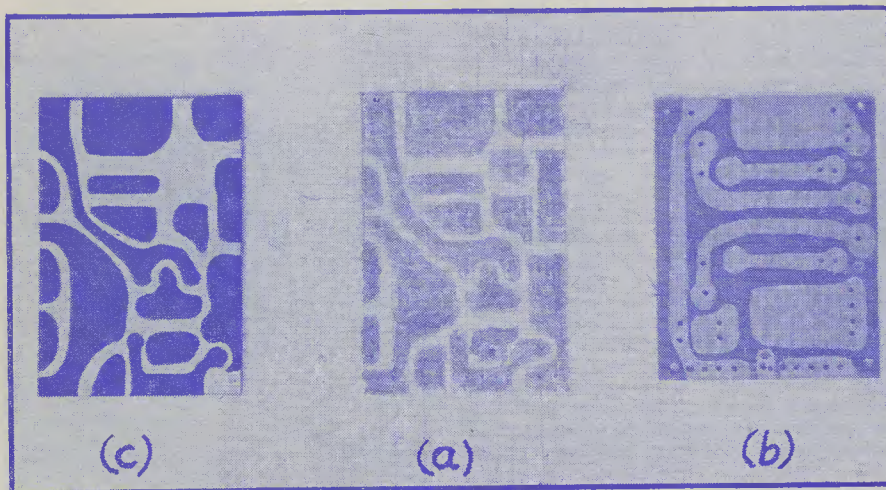

Fig. 2 (a) Receiver panel pencil sketched; (b) Transistor multi-vibrator panel ready for assembly; (c) Painted ready for etching
help to cut out some card patterns of the profiles of all components and move them around on the board to fit as closely as possible. Positioning of components is critical with some r.f. circuits and must be catered for in the layout drawing. Leave room between fixing holes for a length of lead sufficient to prevent the heat, when soldering the ends, from reaching the components. (See Fig. 2 (a).)
11. Both the dish and the board are washed under running water. Paint can now be removed with thinners, dope, or nail varnish remover; it comes off easier if it has not had time to dry really hard. The board is now thoroughly scrubbed under running water, using a mild household abrasive, such as Vim, to produce a bright clean surface (see Fig. 2 (b)). Unless it is intended to proceed at once with drilling and assembling, the areas to be soldered should be protected from oxidation by painting with flux as described below.